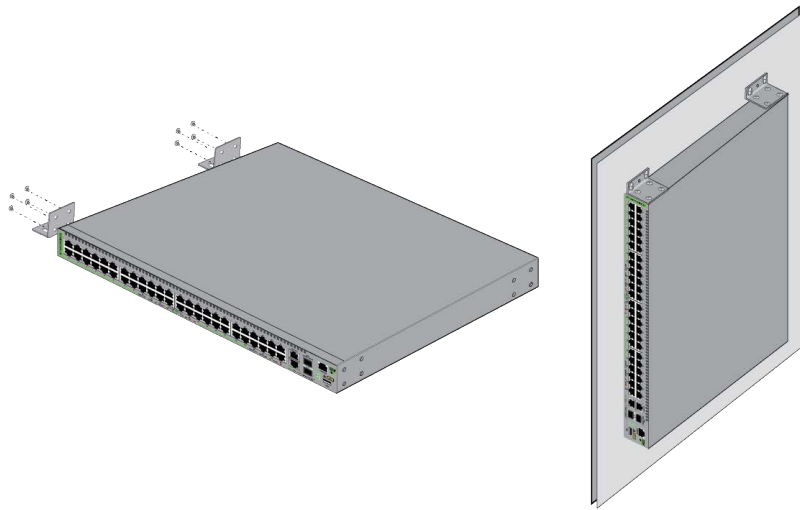
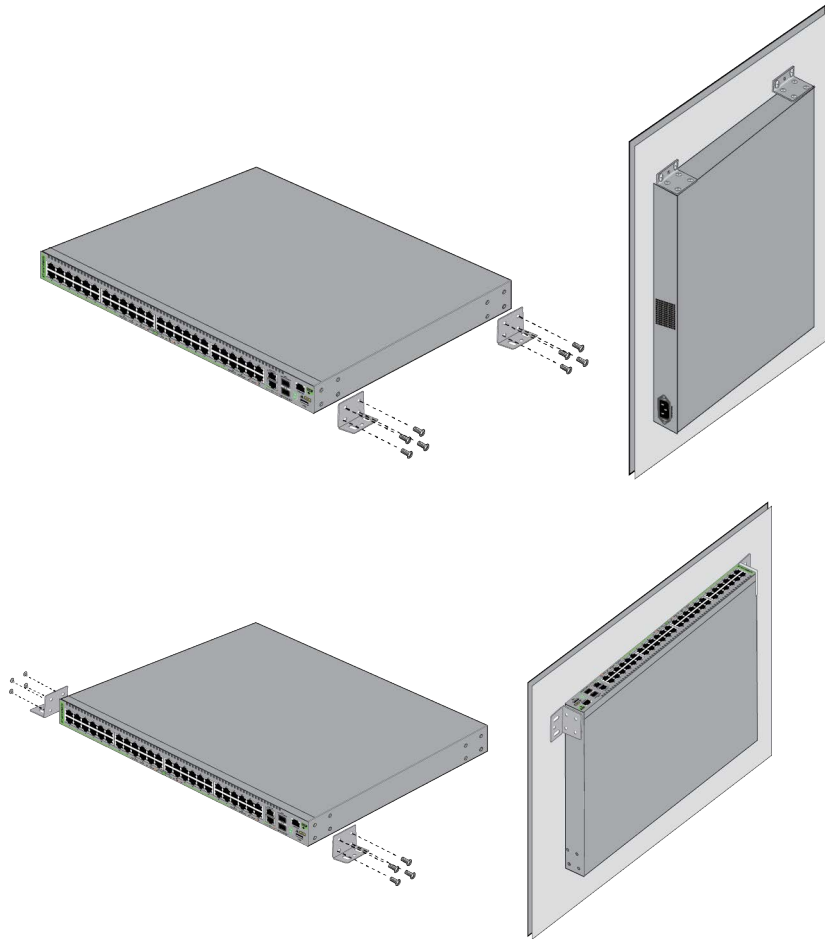

Figure 61. Attaching the Wall/Equipment Rack Brackets to the GS970EMX/52 Switch
Figure 62. Attaching the Wall/Equipment Rack Brackets to the GS970EMX/52 Switch (continued)
3. For the GS970EMX/52 Switch, attach the two wall/equipment rack brackets to one side of the switch. Refer to Figure 61 and Figure 62 on page 103.